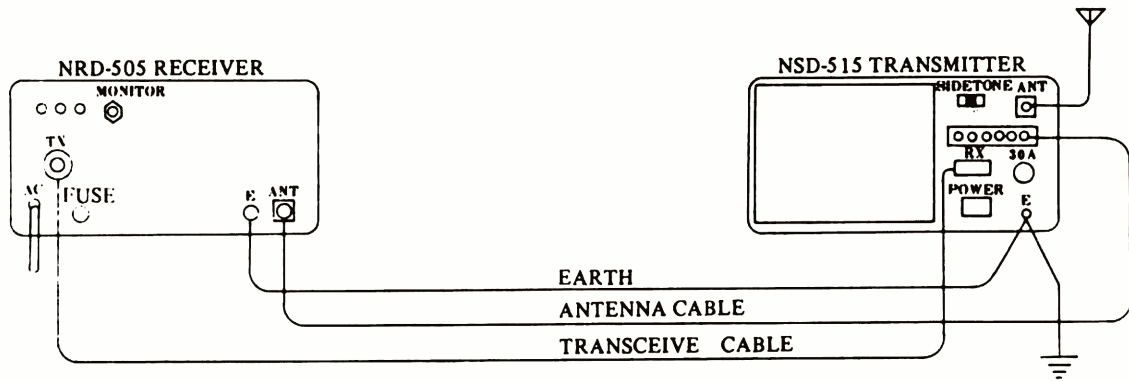

Figure 3.4 CONNECTION OF NSD-515 TRANSMITTER TO NRD-505 RECEIVER
2) When connecting antenna to the receiver through other antenna changer or the like, without observing Figure 3.4, avoid an excessive induction from the transmitted power to the antenna input of the receiver. Such induction tends to enter the antenna input because of undesired timing of the antenna changer.